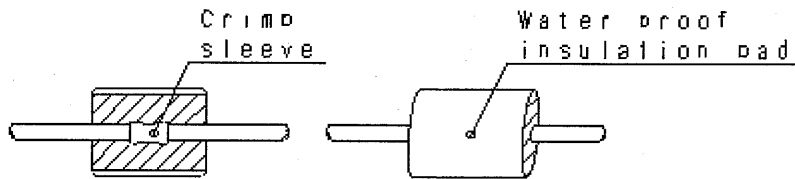
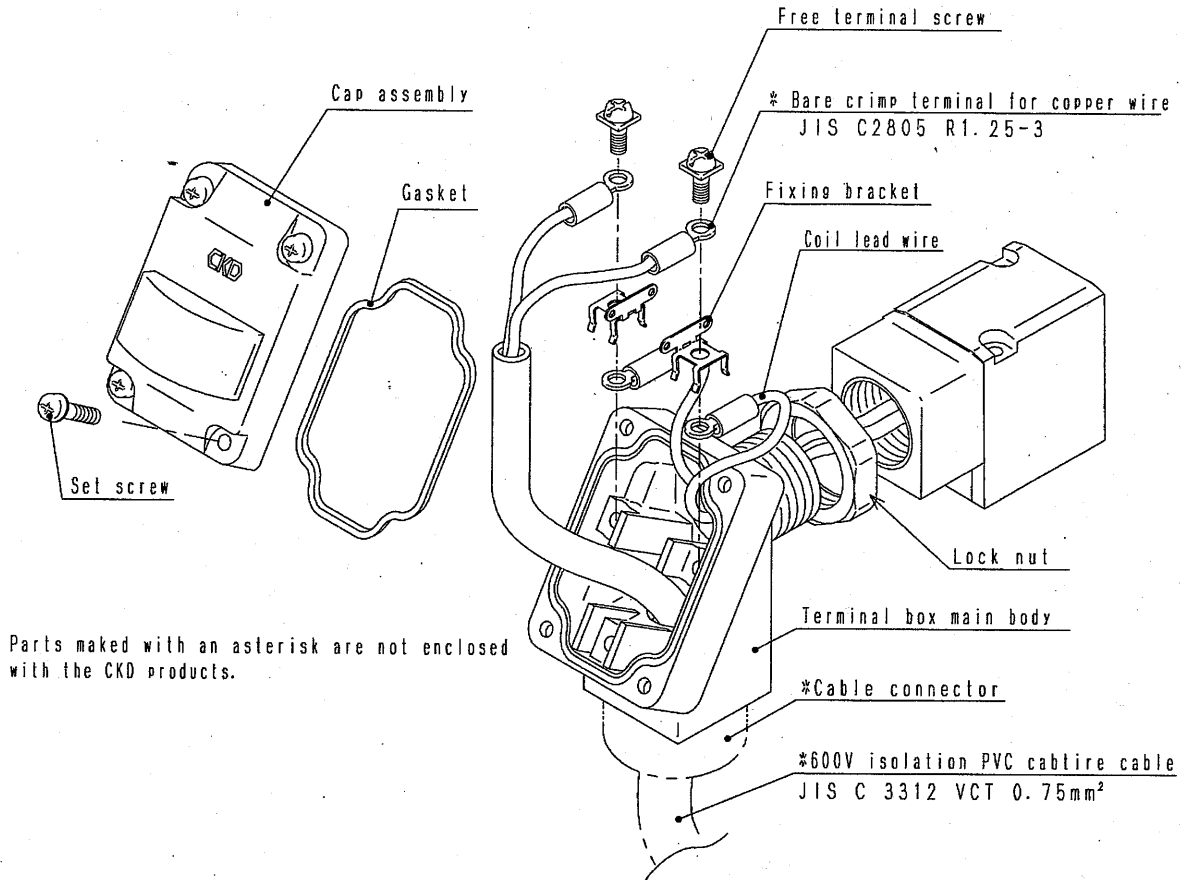

Fig. 10
Fig. 12
- (3) Use a breaker such as a fuse or ground-fault circuit breaker on the control circuit side to protect the electric equipment.
- (4) For the wiring, use electrical wires with a nominal cross-sectional area of 0.5mm2 or larger.
- (5) The AC and DC coils do not have polarity. (Coil option symbol "7A" type has a built-in rectifier (half wave), and drives the DC coils.) The lead wire and terminal box connections are shown in Fig. 10. to Fig. 12. Connect according to each type.